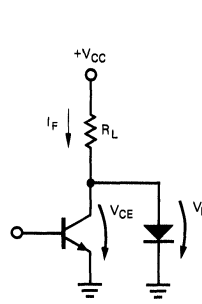

Figure 5.
**Active-High Drive Circuit.** Figure 5 shows a single-transistor drive circuit that lights the LED when the transistor is "high," i.e., not conducting. Equation 2 can be used for calculating the value of  $R_L$ . The transistor should have a  $V_{CE}$  of approximately 0.4 volts when conducting.